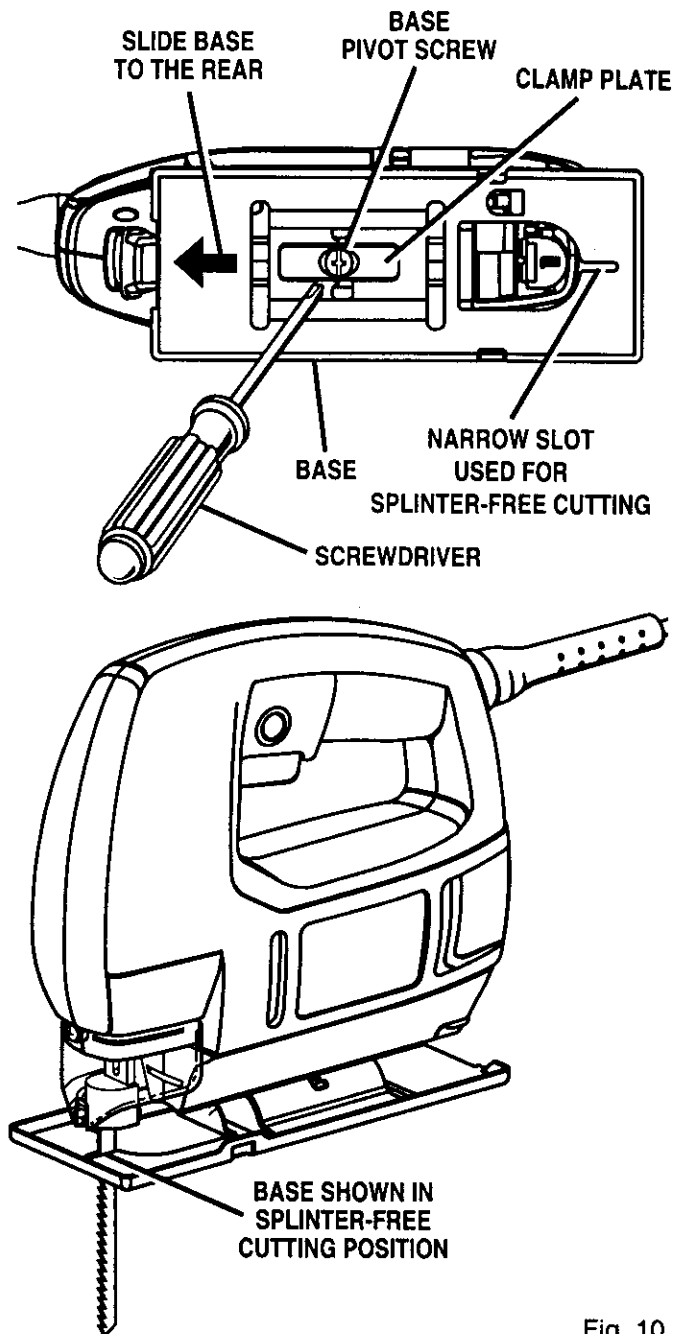

Fig. 10
See Figure 10.
- Using a screwdriver, loosen base pivot screw and slide base to the rear. See Figure 10.